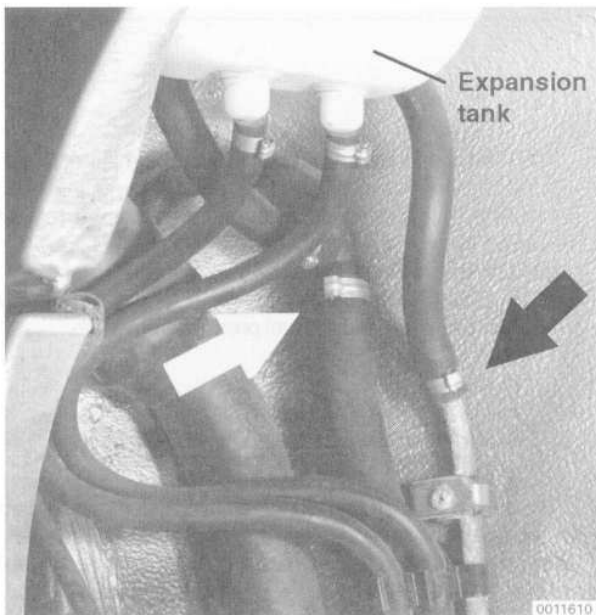

Fig. 3. Expansion tank vent hoses and bolts to be removed (arrows).
6. Remove the wheel housing trim from the right rear wheel housing. Then disconnect the two vent hoses from the expansion tank and remove the expansion tank mounting bolts. See Fig. 3.